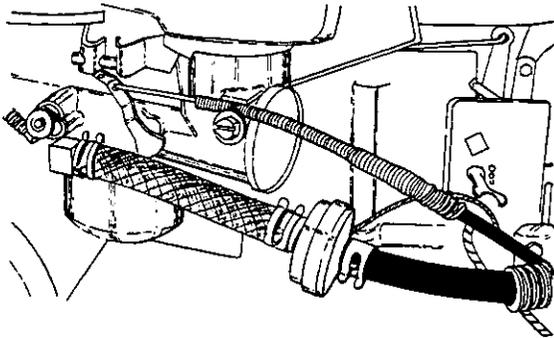

FIGURE 5.
2. Disconnect the fuel line at engine and drain the gasoline. See figure 5.
3. Disconnect the throttle control cable and choke control cable at engine, by loosening the screw and casing clamp. See figure 5.